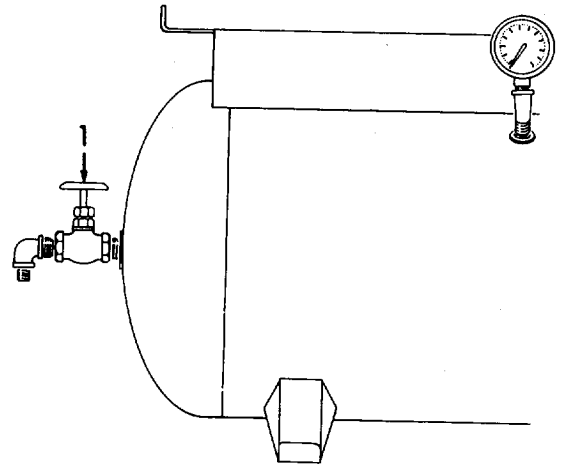

Figure 2-8. Air Shut-Off Valve Closing.
- b. Refer to Figure 2-8. Close the air receiver tank air shut-off valve (1) by turning clockwise.